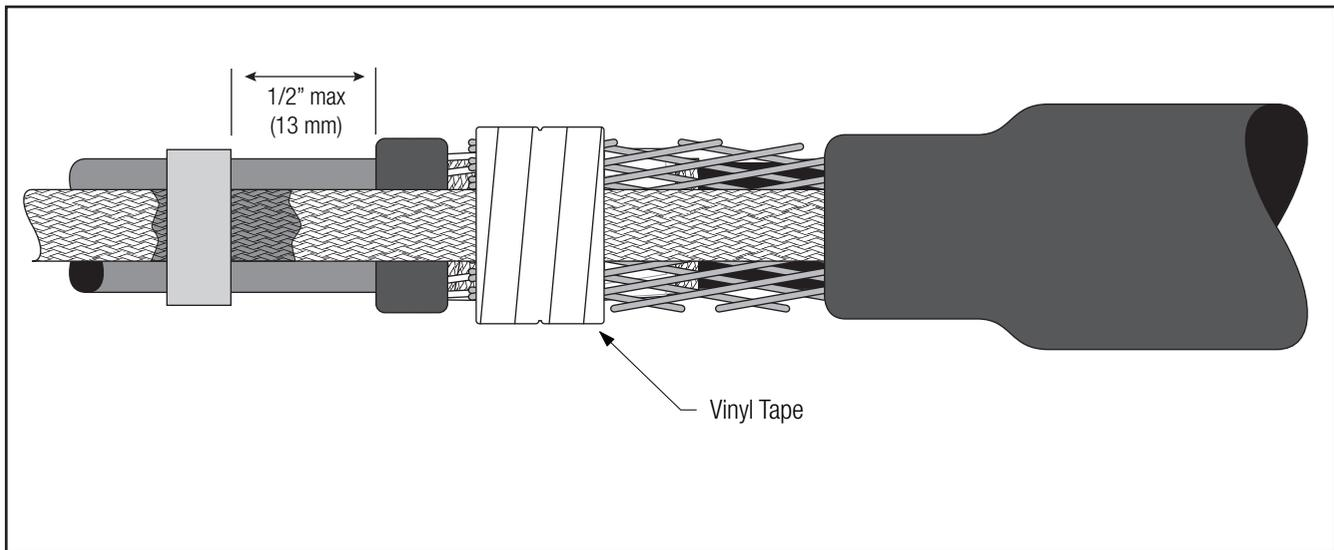

Figure 20
5.6 Wrap two half-lapped layers of vinyl tape over all constant force springs (*Figure 20*).